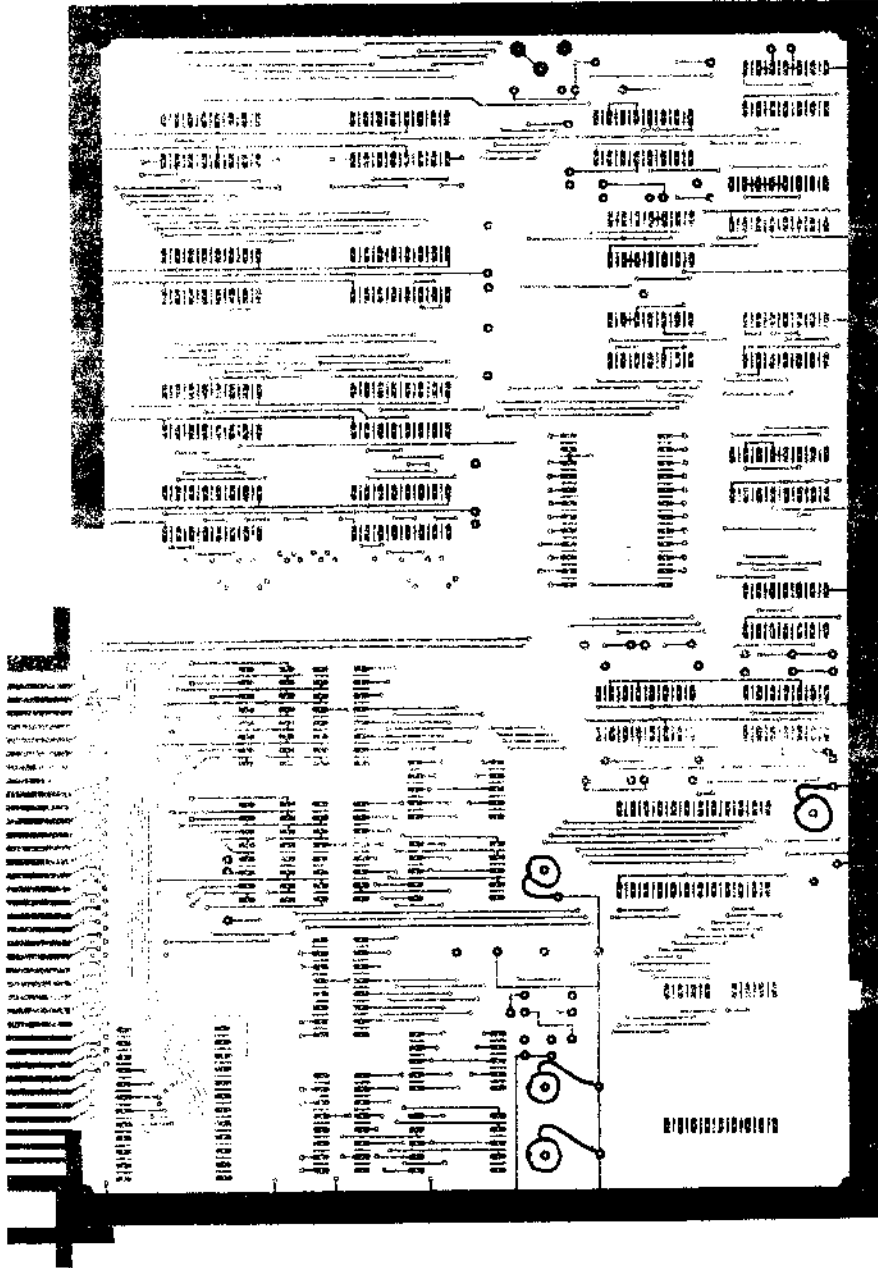

Figure 7. Toggle Switch Locations and Grounding
- (4) Remove four toggle switches. Install in the holes indicated in Figure 7. Remove all hardware except the two nuts. Adjust one nut to allow the threads of the switch bushing to extend above the card by about 1/8 inch. Push the switch through from the solder side of the circuit board and put the other nut on and tighten it down. All switches should be installed with the contacts in a vertical row (with the top of the circuit board being the edge that contains the edge connector). Make certain that the bottom nut does not contact circuit traces.
- (.) Cut four 1-1/2 inch pieces of wire. Strip 1/16th to 1/8th of an inch of insulation from each end. Connect and solder one end to the center contact of each toggle switch. Connect the other end to the appropriate solder pad as indicated in Figure 7.